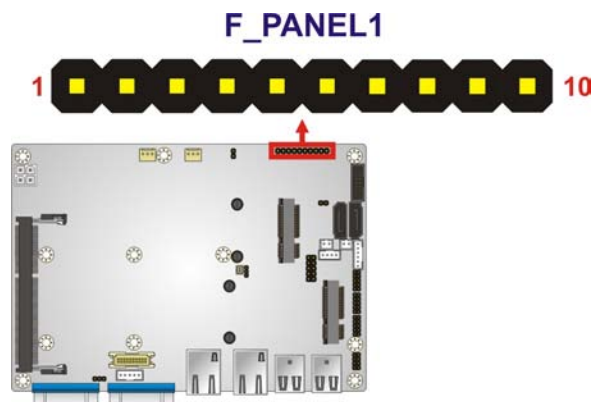

Figure 4-8: Front Panel Connector Location
- CN Location: See **Figure 4-8**